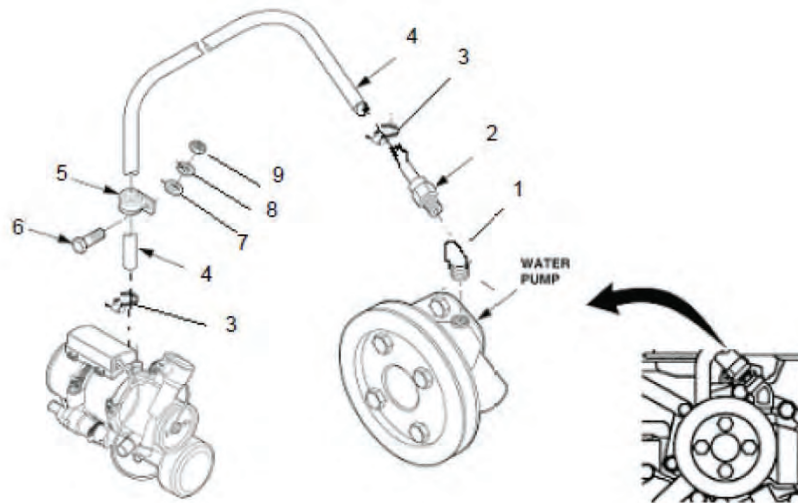

Figure 4. Coolant Outlet Hose Assembly.
- e. Remove plug from water pump, part of engine, and install elbow (Figure 4, Item 1), then stand-off (2). Install 90° preformed side of hose (4) to heater coolant return. Route hose (4) along left side panel above door and attach to stand-off (2); secure with clamp (3). Secure hose (4) to left side panel using clamp (5), screw (6), flat washer (7), lockwasher (8), and nut (9) in hole provided in Step d. If necessary, trim hose (4) to prevent hose from sagging during operation. Secure end of hose (4) to heater with clamp (3).